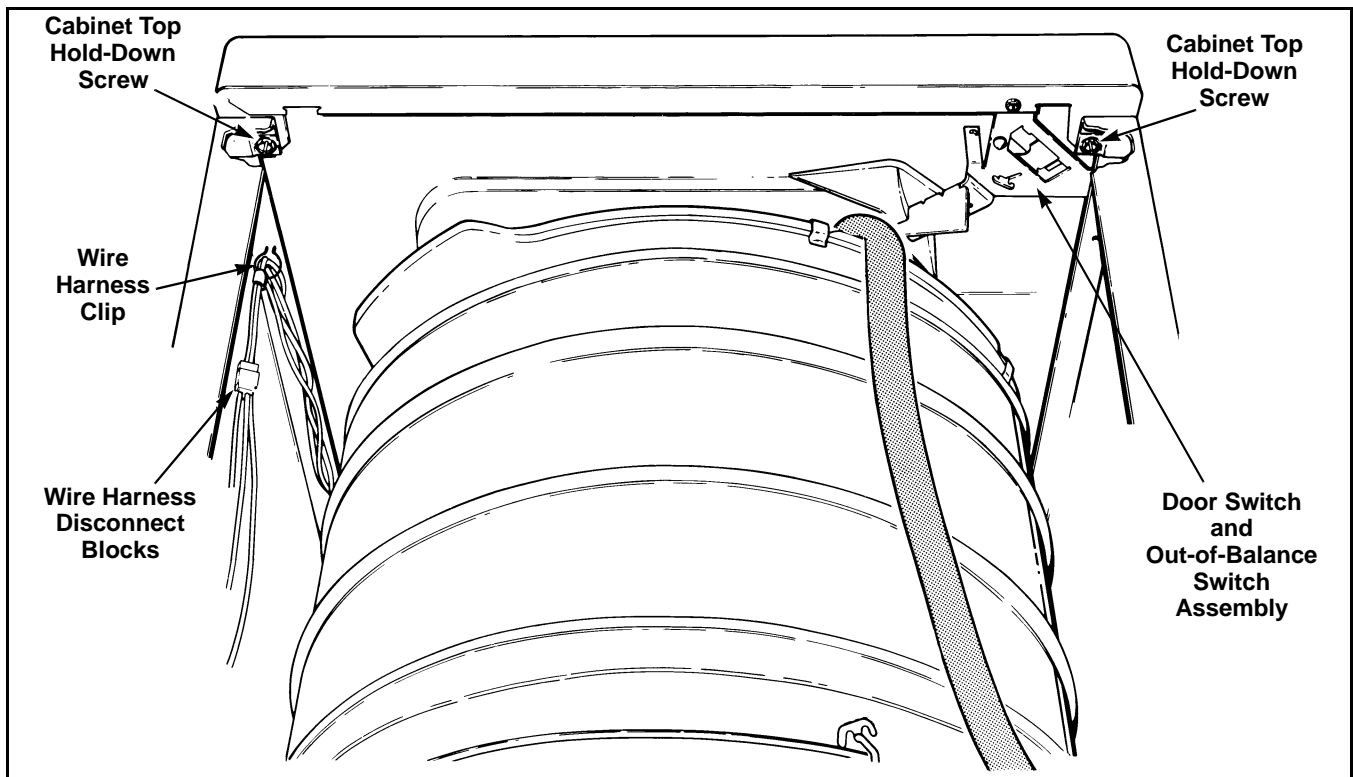

Figure 27
- Disconnect motor wire harness from base wire harness at disconnect blocks. Refer to *Figure 27*.
- Remove two cabinet top hold-down screws. Refer to *Figure 27*.
- Disconnect wire harness at disconnect blocks. Refer to *Figure 27*.